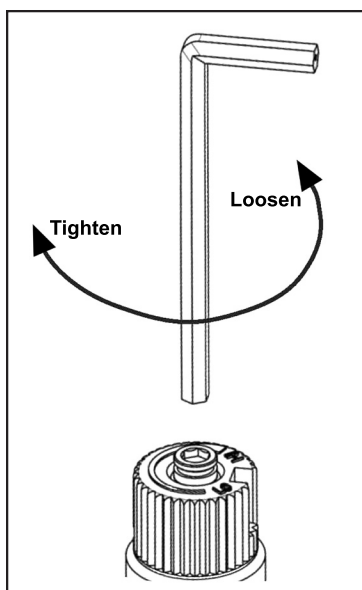

Figure 12: Removing valve screw.
- b) Insert a 5/32" or 4 mm Allen wrench into the hexagonal key-way of the screw (see Figure 12), rotate it counter-clockwise until it is free and extract it.
- e) Using the Allen wrench as shown in Figure 12, rotate the screw clockwise until a torque of 9 inch lbs. **WARNING!** Do not over tighten the screw. It is recommended that you grip the wrench by the short side.